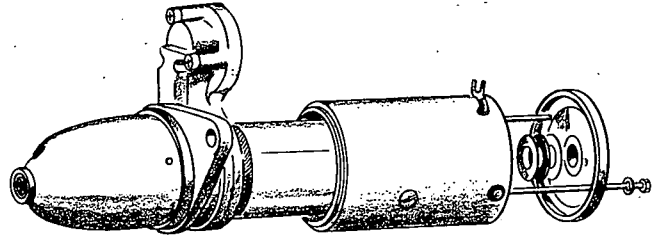

FIGURE 34. REMOVING THROUGH BOLTS
2. After removing the thru bolts, the starting motor can be divided into three parts—the front bracket, housing and rear bracket. The spacers shown in Figure 34 are used for adjustment of the thrust gap of the armature shaft and are placed between the rear bracket and the commutator.